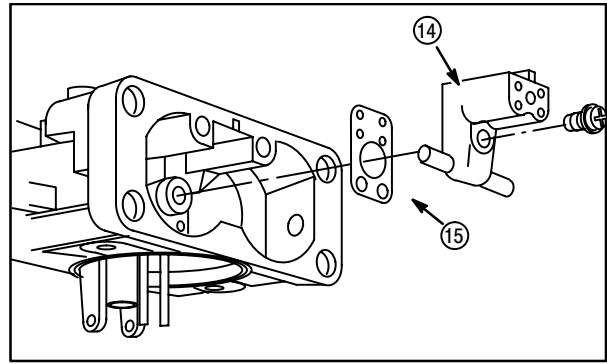

**Fig. 117**
2. Remove two screws and float bowl (2), **Fig. 117**. Discard O-ring.
3. Use **13 mm** thin profile wrench to remove fuel solenoid (1) from float bowl. Discard gasket (3).